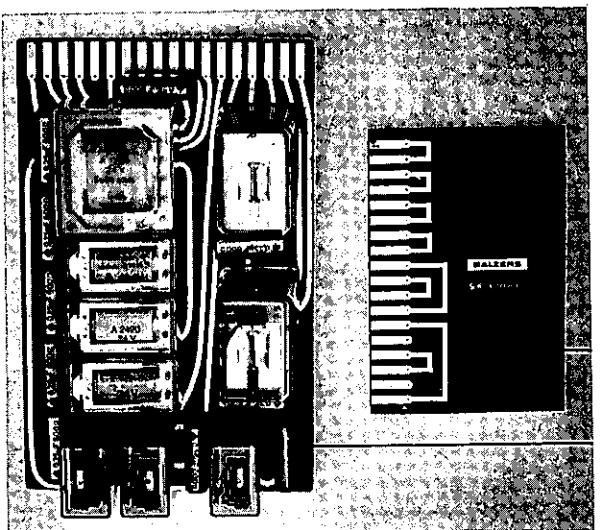

Fig. 8
17. Relay plate E 5 COAT-O-MATIC (see Fig. 8, item 2)